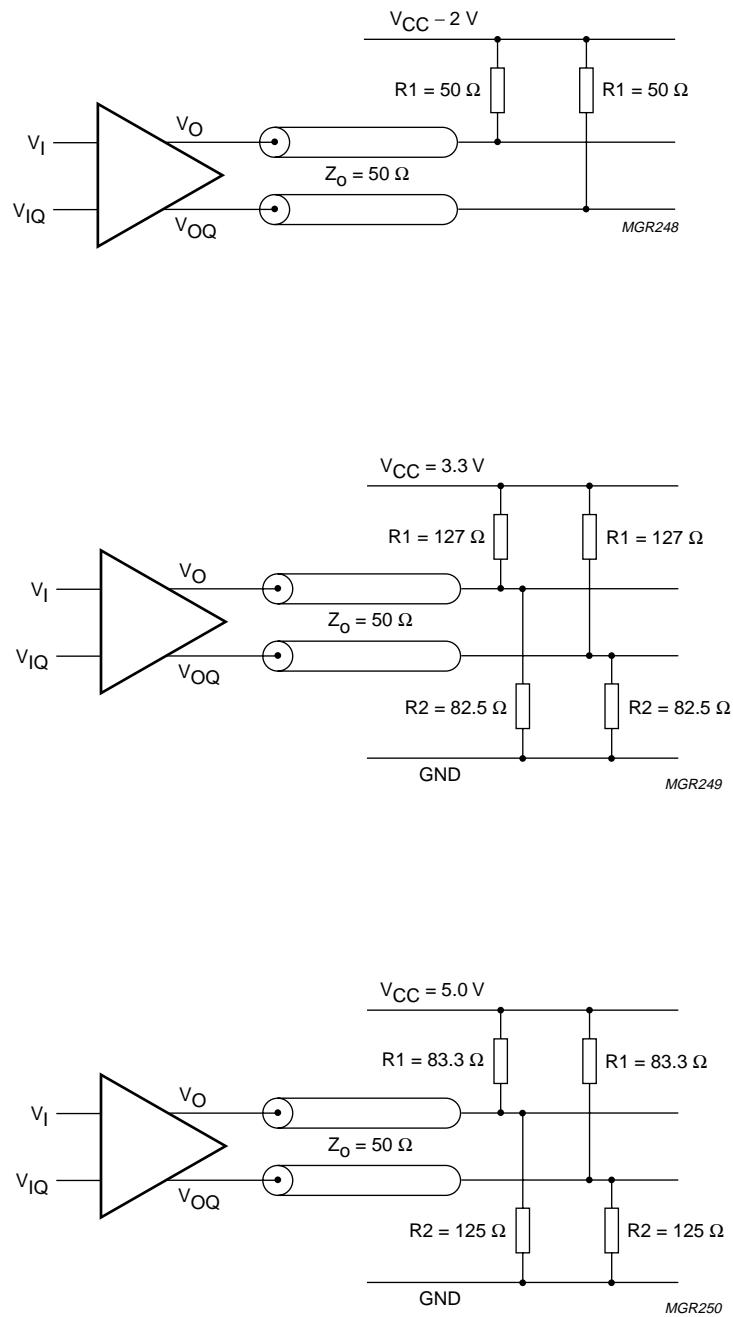

Fig.9 PECL output termination schemes.
Some PECL termination schemes are given in Fig.9.
- $R_L = 50\ \Omega$ connected to a level of $V_{CC} - 2\text{ V}$ (see Fig.9).